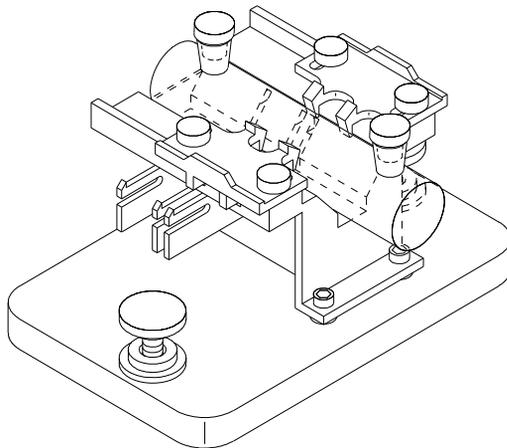

Figure 26 Installed 10-cm Cylindrical Cell in the Long Path Cell Holder
- 5 Allow the clamps to close against the sample cell, see Figure 26. Tighten the four screws that hold the sample cell in place.